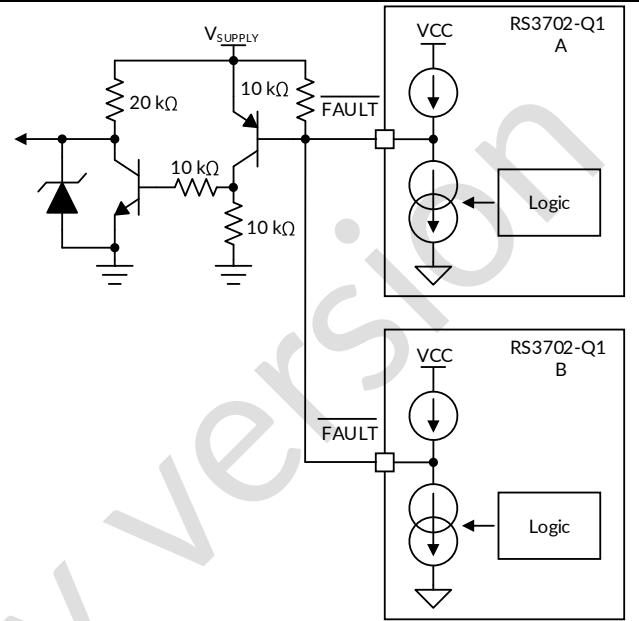

Figure 34. FAULT Bus for One-Fails-Others-On Application
detects any kind of LED fault and pulls low the $\overline{\text{FAULT}}$ pin. The low voltage on $\overline{\text{FAULT}}$ pin is detected by upper side RS3702-Q1 (A) because the $\overline{\text{FAULT}}$ pins are connected of two devices. The upper side RS3702-Q1 (A) turns off all output current for each channel as a result. If the $\overline{\text{FAULT}}$ pins of each RS3702-Q1 are all connected to drive the base of an external PNP transistor as illustrated in Figure 34, the one-fails-all-fail function is disabled and only the faulty channel device is turned off.